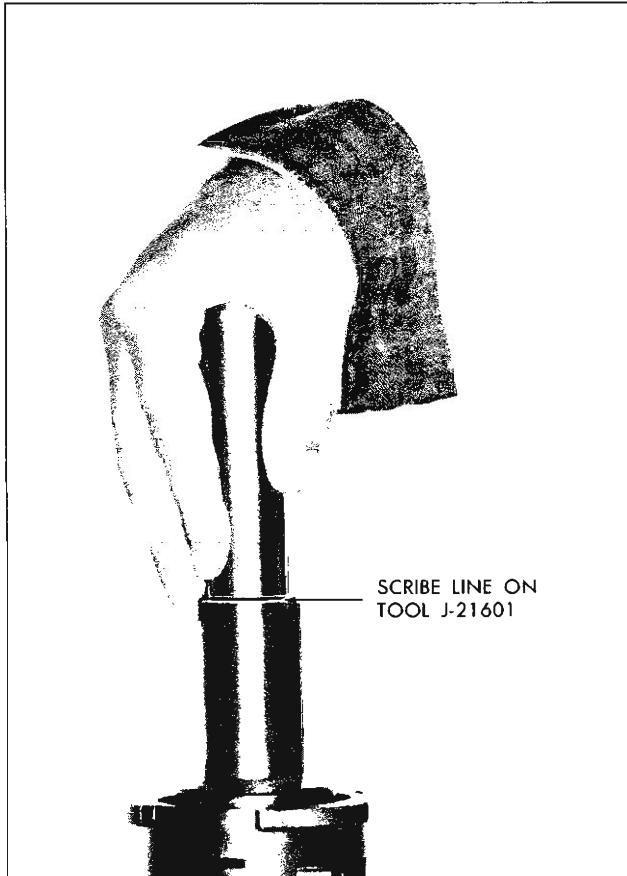

Fig. 31—Installing Air Valve and Retainer
12. Seat retainer in the power piston tube by hand pressing it in place with tool J-21601. (Scribe line on tool should line up with top edge of power piston tube, Figure 31.)